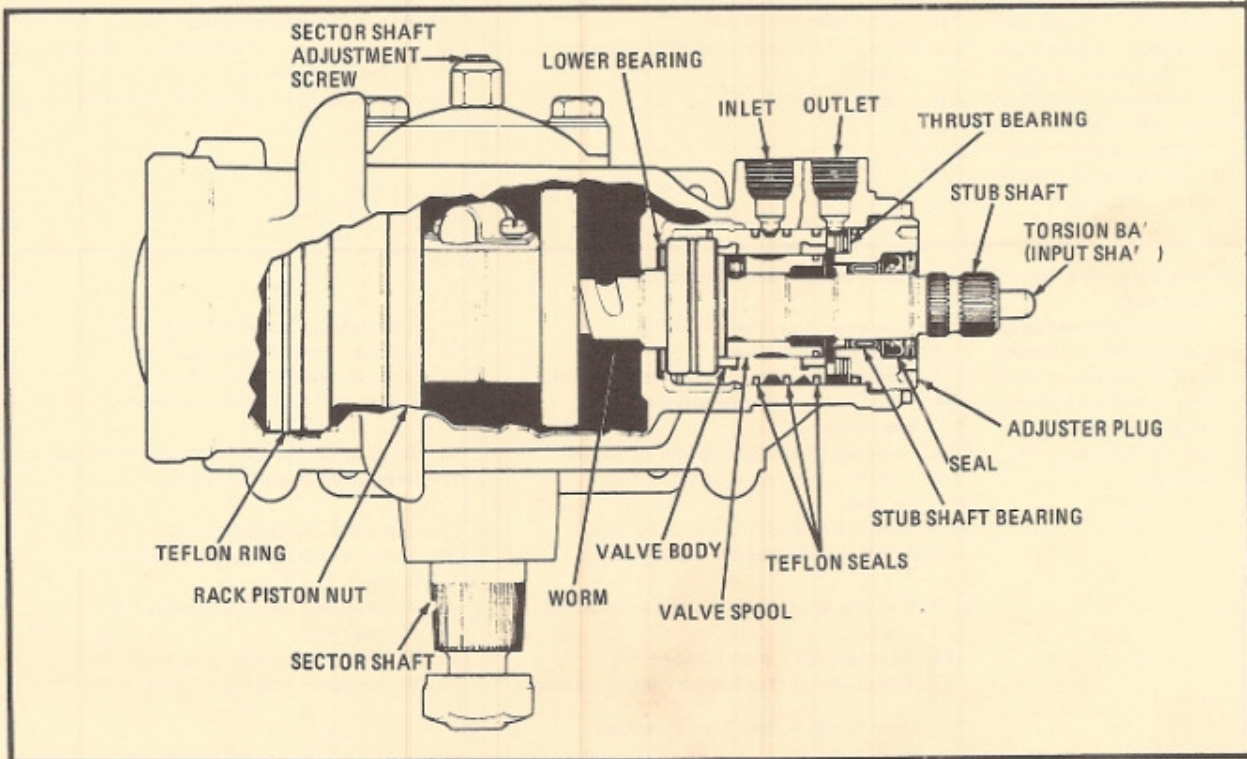

Figure 137 – Cutaway View of Steering Gear
1. Turn the input shaft stub from stop to stop, counting the total number of turns. Starting at either stop, turn the stub shaft 1/2 the total number of turns. This is the "center" of the gear. (The flat on the stub shaft is normally up when the gear is "on center" (see figure 137) and the block tooth on the sector shaft is in line with the mesh adjusting screw (see figure 137).